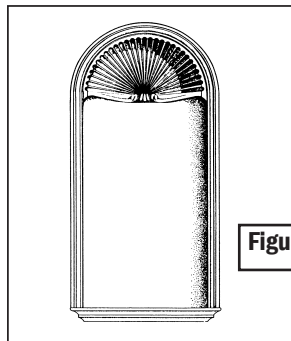

Figure 4
- Position shelf bracket level with bottom of niche. (*figure 4*)